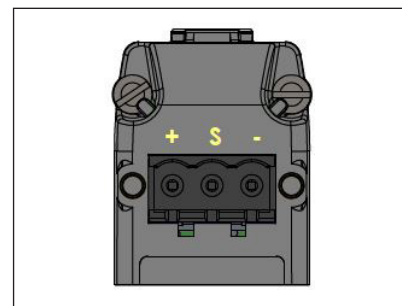

Figure 1 - Spur & Trunk connections
**IMPORTANT:** The FS32-XE is designed specifically for use with fieldbus apparatus manufactured by Eaton where the trunk and spur connections are organised as shown in Figure 1. These connectors are certified for Ex e and the mating connector for the PCB header is PxC # PCB plug - MVSTBW 2,5/ 3-STF-5,08 EX - 1809791. part of IECEx Certificate#IECEX KEM 10.0093U & ATEX Certificate# KEMA10ATEX0196U.